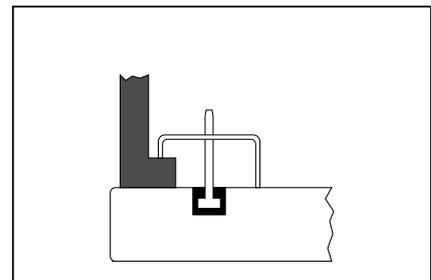
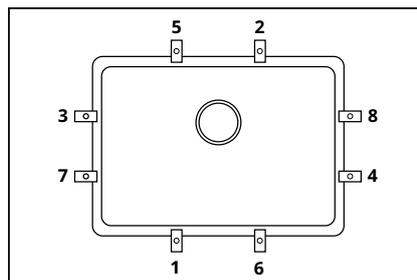

fig. 6
fig. 7
7. While the silicone is fresh, turn the sink upside down, position it on the kitchen worktop and correct its placement in relation to the opening. Press the sink to the worktop and place the grips on the screws (see fig. 6).
8. Wait for the glue in the holes to dry. Fix the clips in the correct order (see fig. 6). Two nuts for each clip have been provided - the second one is to prevent the first one from unscrewing (see fig. 7).